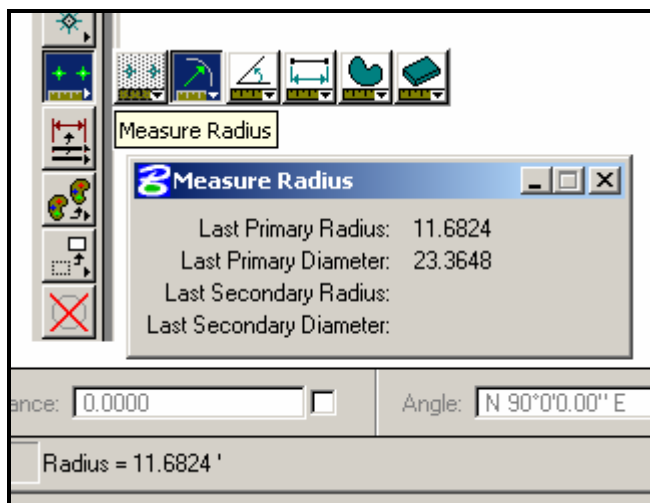

Figure 9-30: Measure Radius
*Data Point* on an arc and it will highlight. You'll be prompted to "Accept/Initiate Measurement." *Data Point* again and you will see the Radius being displayed in the lower middle of the *Status Bar* or the *Measure Radius Dialog* (Figure 9-30).